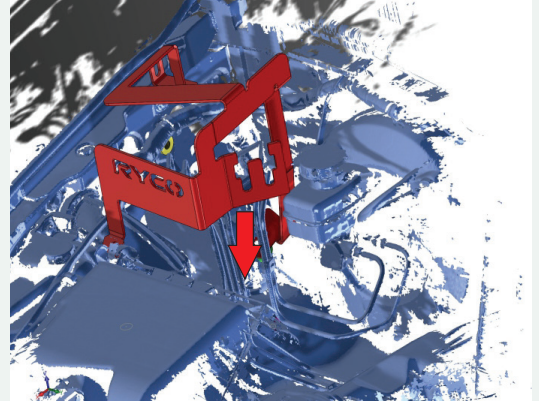

FIGURE 2A
- 5 When fitting the FB9810CC Catch Can bracket as shown in FIG. 2A to 2C, you will be required to manoeuvre the bracket around engine components.